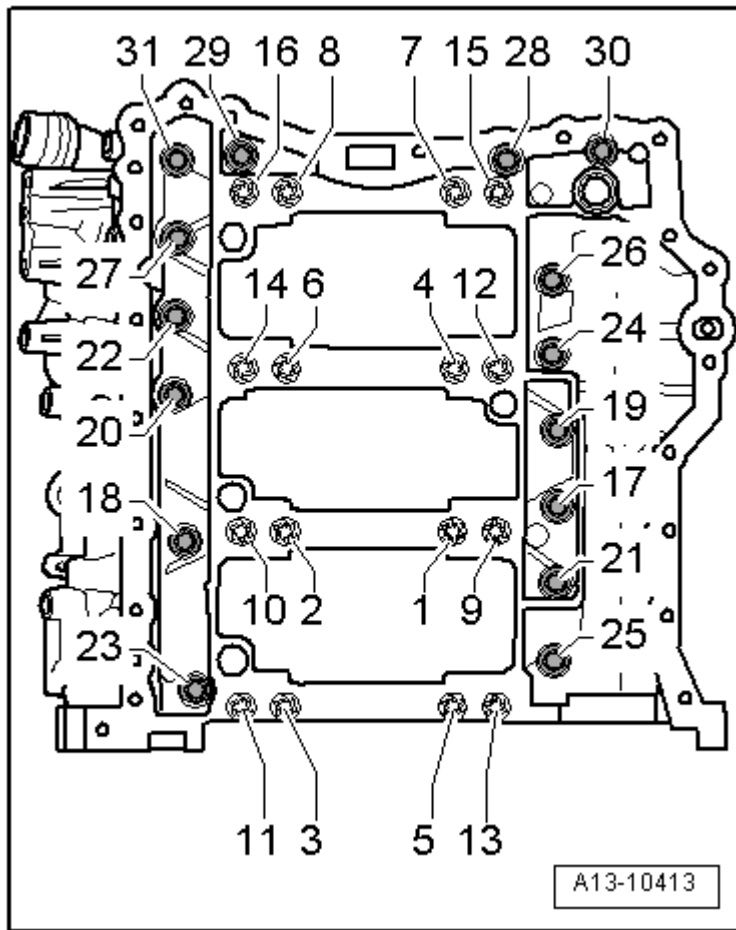

Fig. 5: Identifying Guide Frame Bolts Tightening Sequence
- Tightening specification and sequence, refer to **Fig. 5**